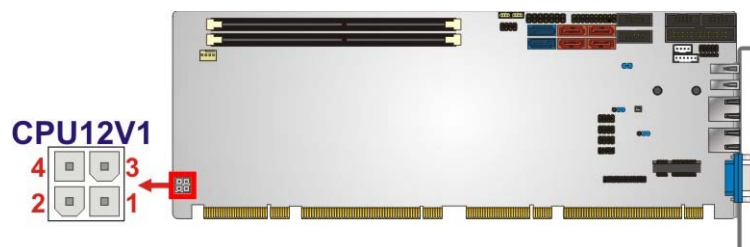

Figure 3-2: ATX Power Connector Pinout Location
- CN Location:** See Figure 3-2